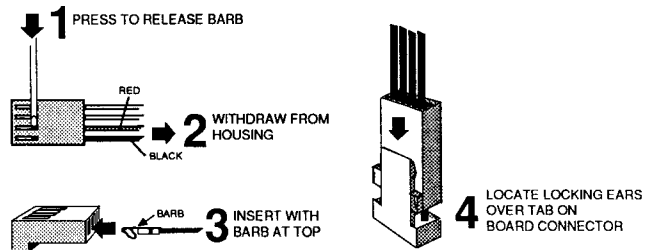

Fig.6 - Removing/inserting LED wires in LED/speaker connector
11. Using a small electrical screwdriver or similar, depress the barbs on the LED wire contacts in the LED/speaker connector (red and black wires) and withdraw the contacts from the connector, noting the polarity of the LED wires (see Fig. 6, steps 1 and 2). Place the old front sub-moulding to one side.
13. Insert the LED wire contacts into the LED/speaker connector so that the barbs on the contacts engage in the slots in the connector housing (see Fig. 6, step 3). Observe correct polarity - make sure that the red and black wires are the correct way round, as shown in Fig. 6, step 2.
17. Plug the LED/speaker connector to PL9 on the main board, ensuring that the locking ears on the connector locate either side of the locking tab on the board-mounted connector (see Fig. 6, step 4).